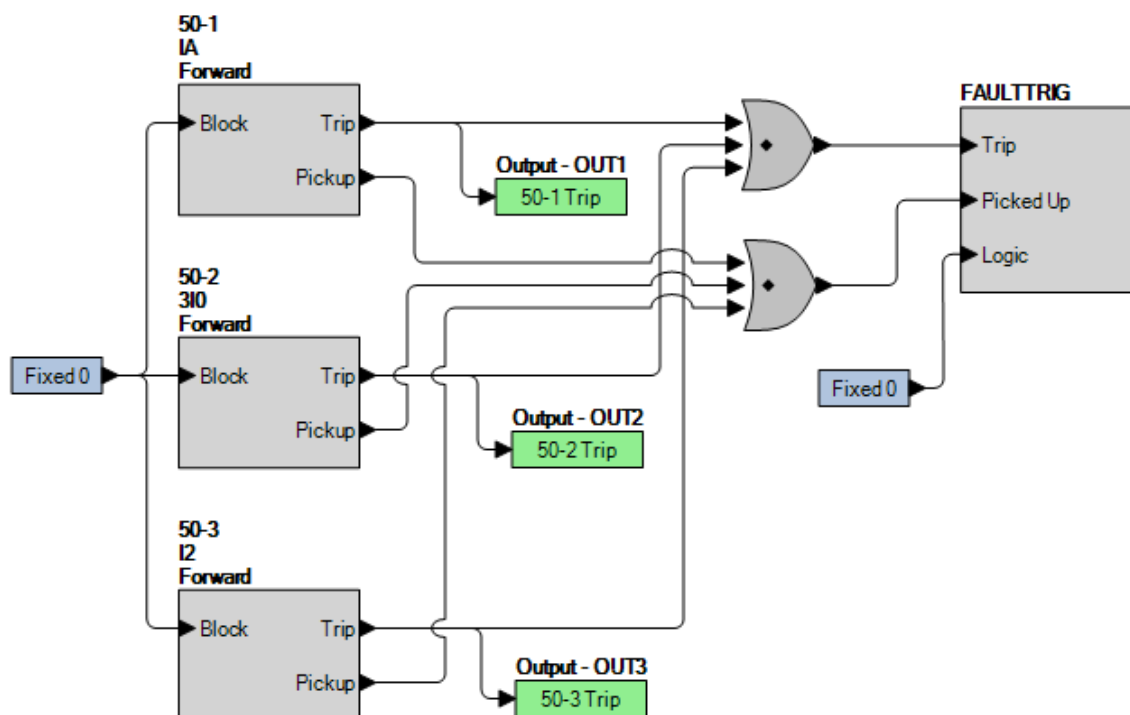

Figure 68-1. BESTlogicPlus Settings
Step 2: Use BESTCOMSPi.us to configure the BESTlogicPi.us programmable logic shown in Figure 68-1.